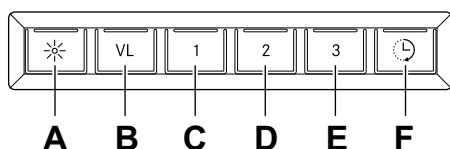

Fig. 1
- 1. To open programming: press and hold down buttons A and B for 3 seconds so that they both flash 3 times, see Fig. 1. Programming mode will then be active for 30 seconds.
- 3. To save programming: press and hold down buttons A and B for 3 seconds, see Fig. 1. Buttons A and B will flash twice to show that the programme has been saved.